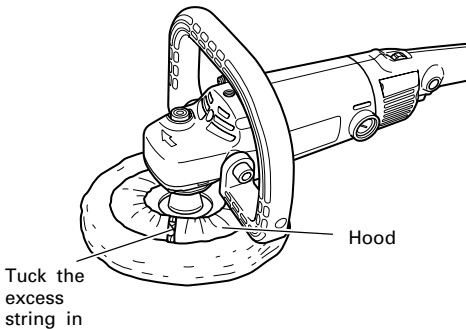

Fig. 6
- (1) Insert the washer nut through the rubber pad and thread it onto the spindle.
- (2) Press the lock pin to secure the spindle and tighten the washer nut with a wrench.
- (3) As shown in Fig. 6, wrap the rubber pad with the hood of the wool bonnet, and firmly secure it by tightening and tying its draw string. Be sure the excess string is firmly tucked inside the wool bonnet to prevent it from flying out while polishing.